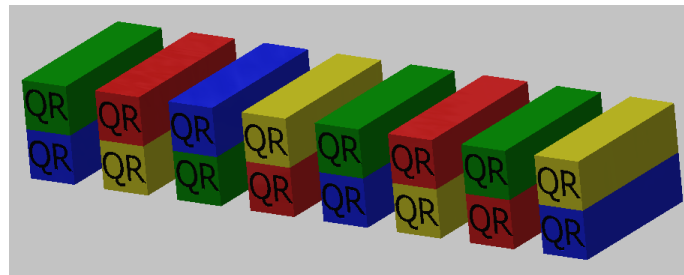

Figure 12: Shipping containers in zone C (one size, four colors, with QR code)\*
**Zone C** will have sixteen 1.5" x 1.5" x 5" shipping containers (two of each color: blue, green, red and yellow), as shown in Figure 12.